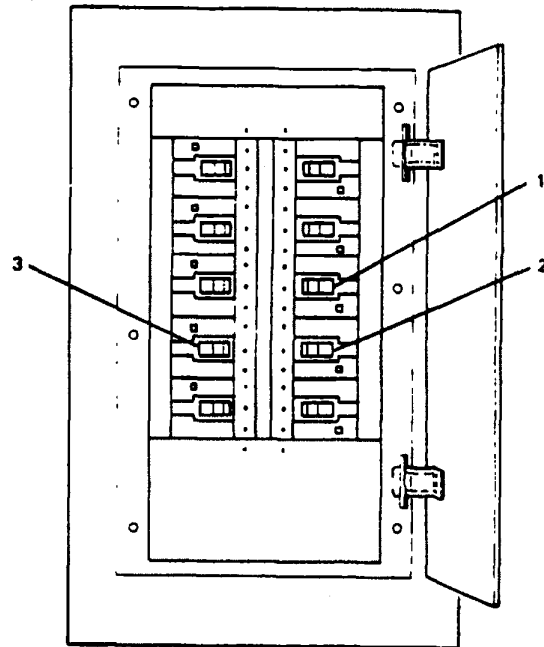

Figure 2-210. Auxiliary Machinery Space No. 1 Power Panel No. 4.
panel no. 4 (Figure 2-210). Set following circuit breakers to ON position:
(2) Auxiliary machinery space no. 1.
(a) Auxiliary machinery space no. 1 power panel no. 4 (Figure 2-210). Set AMS I SUPPLY FAN (S01-45-2) circuit breaker (3) to ON position.